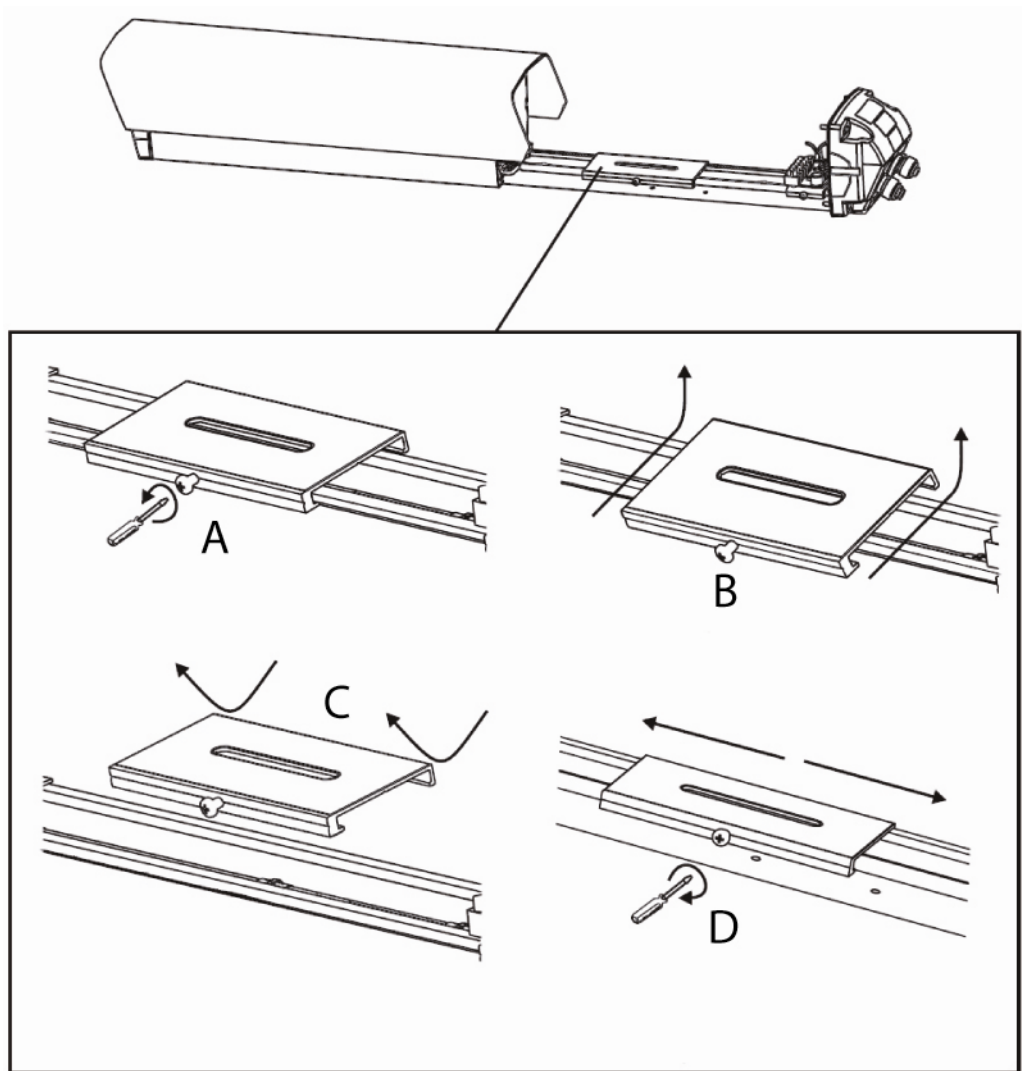

Fig. 5 Mounting the Camera and Lens Assembly
1. With the housing cover slid forward or removed, slacken the Pozi Pan Head Screw, but do not remove **(A)** (see Fig. 5).